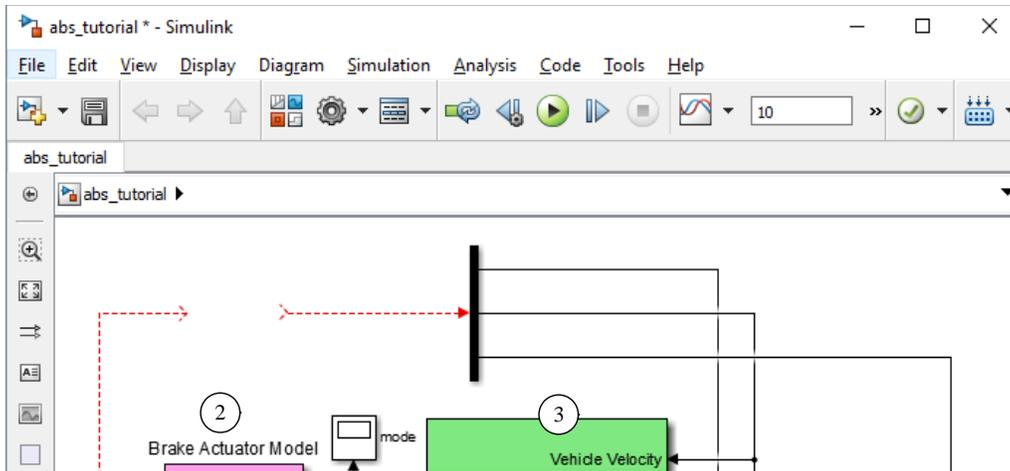

Figure 15. Tutorial example without vehicle S-Function.
7. The model now in view is simply the copy you made earlier of the existing ABS controller. For the purpose of this tutorial, remove the S-Function from the model. Do this by selecting it and pressing the Delete key (Figure 15).